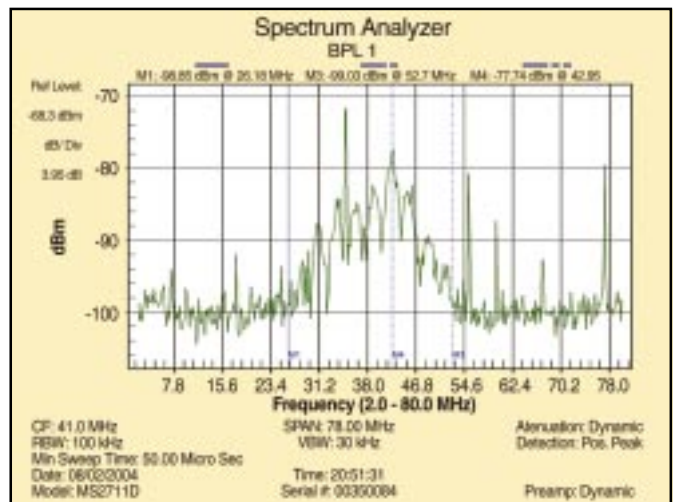

Figure 1. Broadband signal from a trial BPL system.
New uses coexist with, or replace, existing uses. One current broadband over power line (BPL) field trial, for example, uses the radio spectrum from approximately 4 MHz to 40 MHz using spread spectrum technology that is intended to not unduly raise interference levels for existing users of high-frequency (HF) spectrum. Preliminary field measurements done at one BPL trial showed a broad rise in the apparent noise floor due to the BPL signal (Figure 1). There are also plans under way to employ BPL technology within buildings to distribute broadband signals via the power lines to every power outlet. This in-building solution is much more manageable in terms of interference since the potential for interference should be much better understood within the confines of a single building, as opposed to spectrum use in a large area. As installation of a BPL solution is being planned, a thorough site survey to determine areas of
The measurement shown in Figure 1 was done with a whip antenna. Some technologies compete with themselves. The channels assigned for 802.11(b) and 802.11(g), for example, overlap so badly that there are only three non-overlapping channels available in the
How do you determine if problems are being caused by interference? Abrupt up-and-down changes in throughput can be indicative of intermittent interference while a step reduction in throughput or a reduction in apparent receiver sensitivity often points to a new emitter causing difficulties. Looking at Figure 1, it can be seen that a signal being received in the 30 MHz to 50 MHz range would need to be at least 10 dB to 20 dB stronger to be received with the same signal-to-noise ratio than would be the case if the interfering signal weren't there. This same sort of problem can be caused by broadband phase noise emanations from a nearby transmitter, especially a problem for co-located systems.